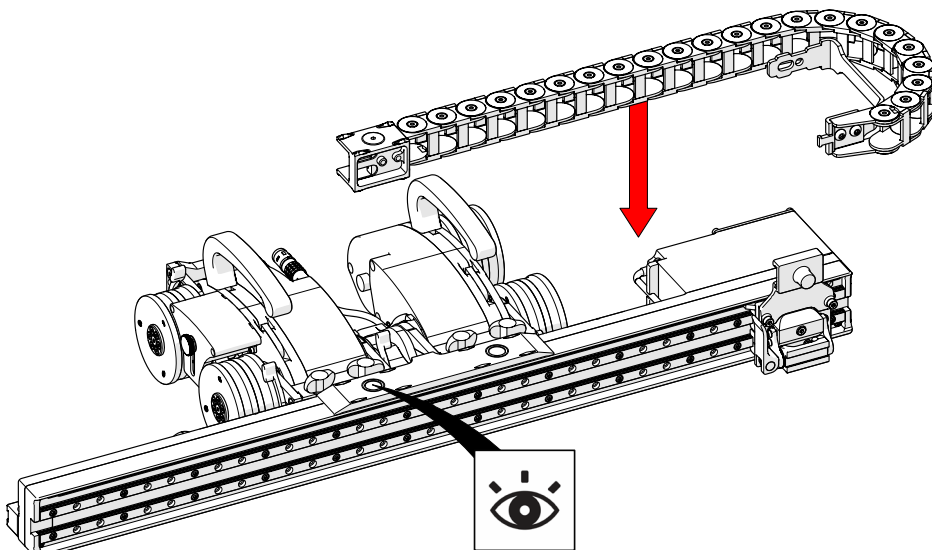

Fig. 107 - Attaching the cable tray
1. Attach the cable tray's magnetic end to the magnetic base on the raster arm. Ensure the four divots are aligned with notches on the magnetic end (Fig. 107).